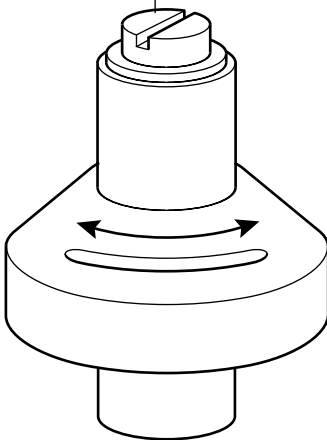

Fig. 7
- Undo cam spindle screw (Fig. 7).